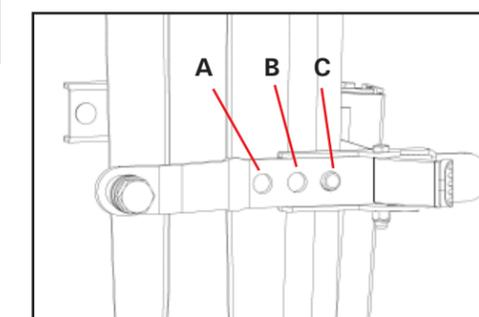

Figure 5
- Push down on the cam locks (Figure 4A) to secure the hinges. Figure 5 shows the Roller Hinges engaged correctly (in setting C).